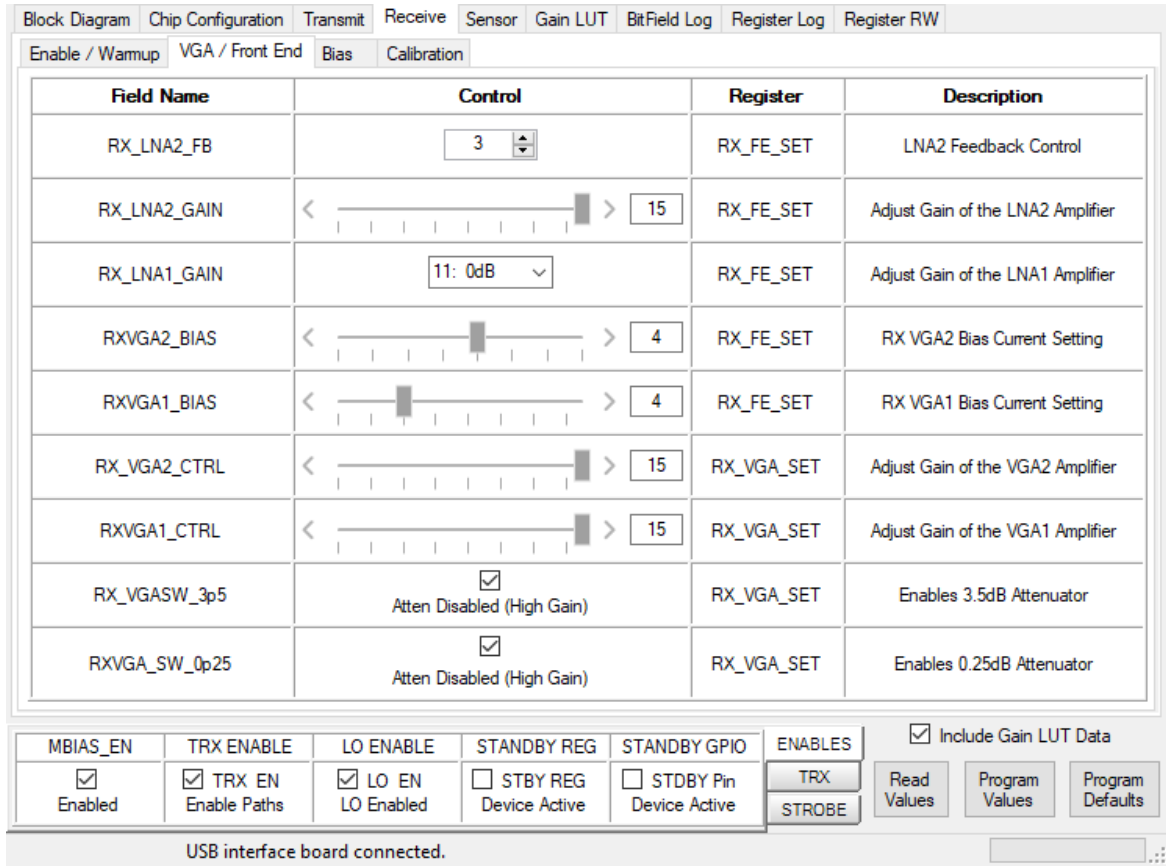

Figure 18. Receive: VGA / Front End Panel
13. The **VGA / Front End** panel (Figure 18) allows users to manually adjust RX VGA/FE gain settings. Users can also manually adjust bias settings for individual RX building blocks and calibration parameters by selecting **Bias** and **Calibration** subpanel tabs.